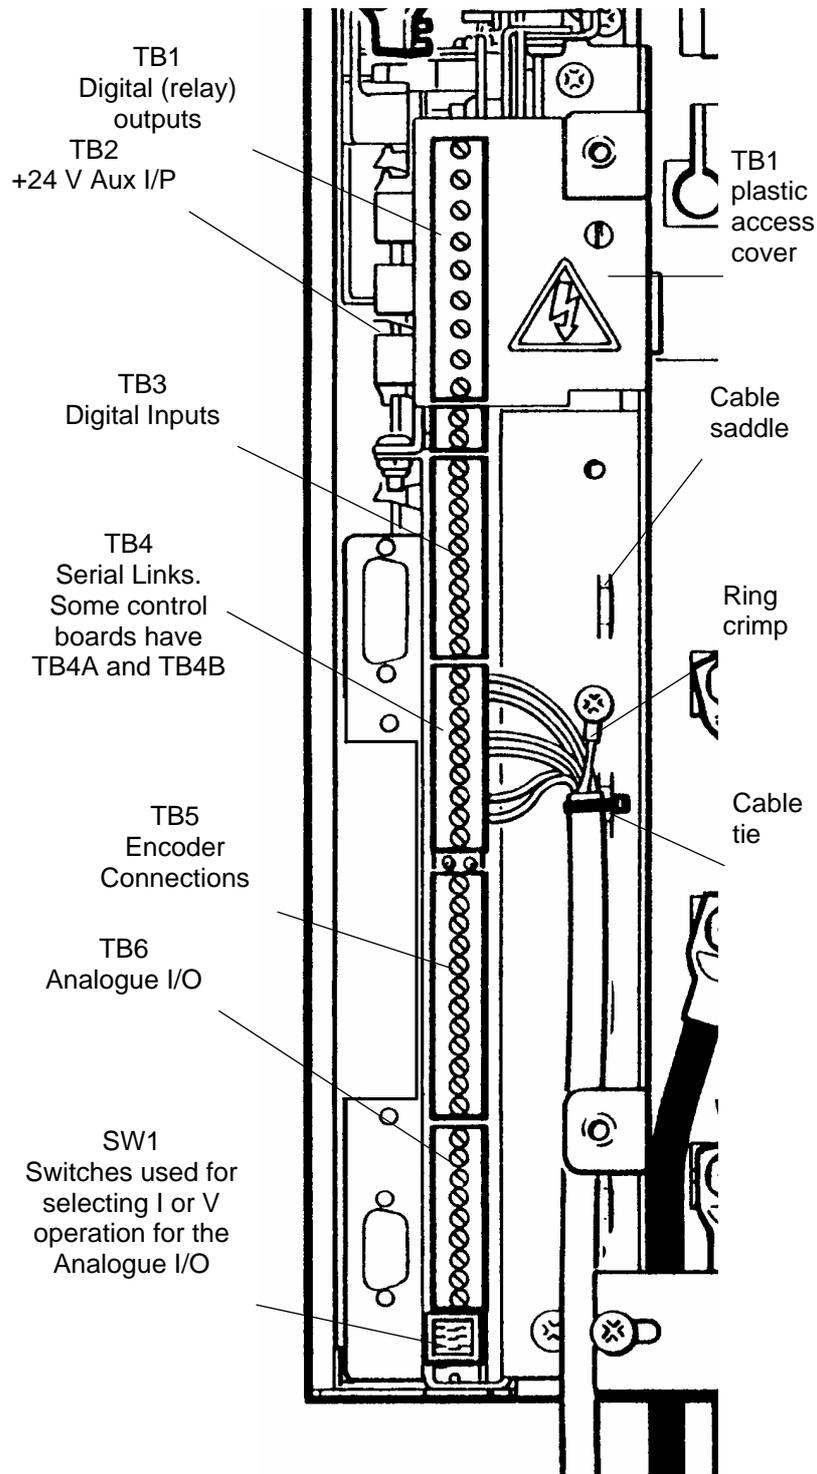

Figure 3-8 Control connections
(Refer to Figure 3-8)
1. Refer to Figure 3-8 for the I/O panel layout, and to the default wiring diagrams and I/O table at the front of this manual for specific connections. Connect control cables to the I/O panels of both bridges as required. Multicore screened cables should always be used, except for TB1, TB2 and TB3, where screened cable is not mandatory.
<p>Contactor LCN Wiring</p> <ol style="list-style-type: none"> 1. Using suitable wire (see Section 3.7.4), connect the fan transformer 110 V to TB7 pin 1 on the pre-charge pcb and connect the contactor coil to TB7 pin 2. Route the wiring up via the bottom of the chassis, alongside the control wiring. 2. Use cable ties to secure wiring to the DB panel (size 4) and to the control wiring cable saddles (Figure 3-8).